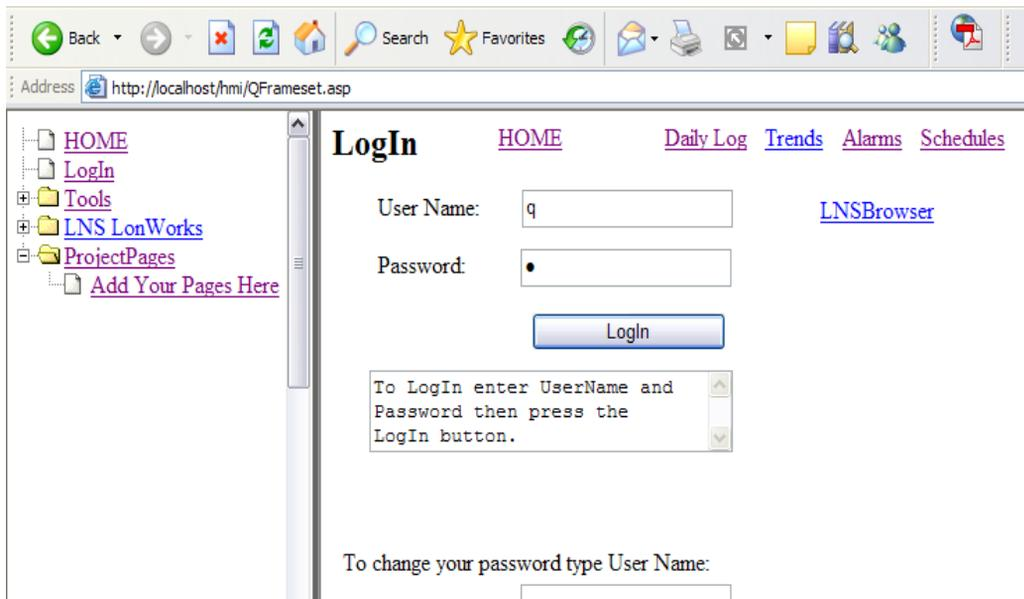
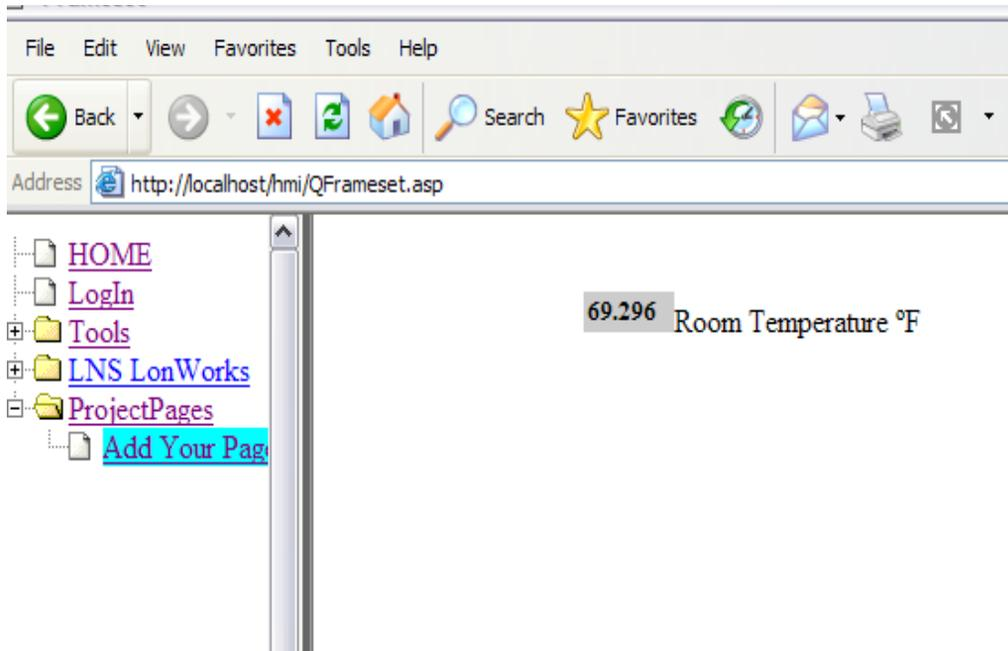

Figure 24
Figure 25
11. You can view the pre programmed pages related to the functions of *InetSupervisor* by typing *http://localhost/hmi/QFrameset.asp* in the address bar of *Internet Explorer* at the *LonServer* or any other computer attached to the network. You may have to substitute *localhost* with the name of the web-server computer or its IP address. For the default screen the *Username* is *q* and the *Password* is *q*(**Figure 24**). You can edit Login information via the *Database Config* utility (in the *WebUsers Table*). In the left frame is a navigation tree, expand the *Project Pages folder* and click the *Add Your Pages Here* file(**Figure 25**).